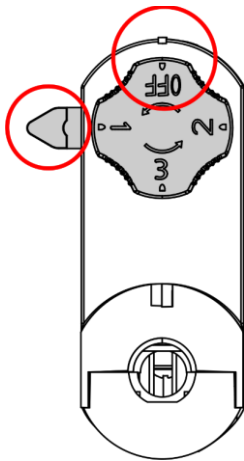

Fig. 05
- 01) Make sure that the **circuit selector (03)** is in OFF position and the **track lock (02)** is in unlocked position, as shown in Fig. 05.